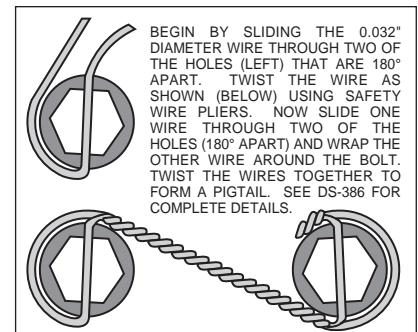

Figure 4. Safety Wire Diagram
- Install the grease seal (6) by pressing into the backside of the hub (4).
- Pack the small outer bearing cone (12) with high temperature disc brake bearing grease and install into front side of the hub (4). Slide the hub assembly (4, 5, 6 and 12) onto the spindle. Secure using spindle washer (13), stock adjusting nut, and nut locking device. Adjust wheel bearing pre-load per Original Equipment Manufacturer (OEM) specifications.
- Install the O-ring (14) and the dust cap (15) into the hub (4). **NOTE:** O-ring (14) friction will not allow cap (15) to unscrew on its own.
- With the larger I.D. side of the rotor (7) facing away from the hat (8), bolt rotor (7) to hat (8) through the backside of the rotor using washers (9) and bolts (10). Torque bolts (10) in an alternating sequence to 85 **in-lb**. Safety wire bolts (10) using standard 0.032 inch diameter stainless steel safety wire as shown in Figure 4. Please refer to Wilwood's data sheet DS-386 (available at www.wilwood.com/pdf/ds386.pdf) for complete safety wire installation instructions.
- Slide the rotor/hat assembly over the studs (3) in the hub (4) taking care to align the small countersunk holes in the hat (8) with the small threaded holes in the hub (4). Install three flat head socket head screws (11) through the small holes in the hat (8) and torque to 85 **in-lb**. Check to be sure the hat seats squarely against the hub face.
- NOTE:** Please reference the caution statement at the beginning of the assembly instructions. The caliper mount brackets (16) should be installed first with clean, dry threads on the mounting bolts (17). Place sleeve (19) into the holes on the radial mount caliper bracket (16). Install the radial mount caliper bracket (16) on the backside on the flat caliper bracket (1) by sliding bolt (17) through washer (18) and through the bracket holes. Place spacer (20) and shim washer (21) between the two brackets and screw bolt (17) into insert nut on the flat caliper bracket (1). Finger tighten bolt (17). Use one thin shim (21) between the two brackets (1 and 16) during initial trial fitting.
- Lubricate caliper mounting studs (23) and nuts (26) with lightweight oil. Install two shim washers (24) over each pre-installed stud (23) on the radial mount bracket (16). Slide the caliper (22) in place over the studs and rotor, then install the washer (25) and lock nut (26) to hold the caliper in place. The caliper bleed screws should be pointing up.
- View the rotor (7) through the top opening of the caliper (22). The rotor (7) should be aligned in the center of the caliper (22). If not, adjust the radial mount caliper bracket (16) by using shims (21 and/or 28) placed between the two brackets (1 and 16). Add as many shim washers (21 and/or 28) as necessary to achieve the correct alignment. Always use the same amount of shims on both the top and bottom radial mount caliper mounting bolts (17). Finger tighten and recheck alignment, adjust as necessary. Apply red *Loctite*® 271 to bolt threads (17) and torque to 47 ft-lb.
- Remove the caliper center bridge pad retainer bolt, nut, and tube from the caliper. Slide the brake pads (27) into place. They should install easily without interference. Check that the outside radius of the brake pad is flush with the outside diameter of the rotor face. Add or subtract shims (24) between the caliper and mount bracket to gain the proper alignment. Reinstall the caliper and torque the caliper nuts (26) to 30-35 ft-lb. Reinstall the center bridge pad retainer tube, bolt, and locknut. The locknut should be snug without play in the bolt or tube. Be cautious not to over tighten.